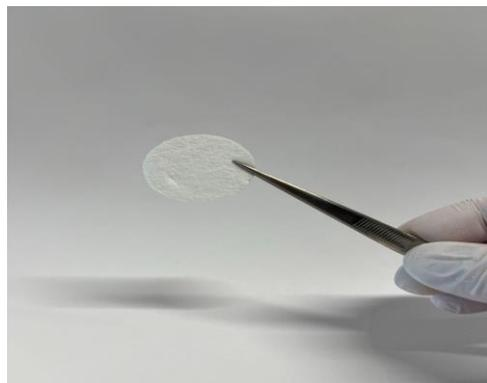

Figure 9. Fix the Gelacell discs using mounting media for imaging.
4. **Handling:** Unclip the cell crown by rotating the bottom part (small part). Use fine point tweezers/forceps (straight or angled) to hold the scaffolds (see Figure 9) and place it on a glass slide. Add one or two drops of mounting media to fix the inserts and cover it with cover slip (Figure 9).